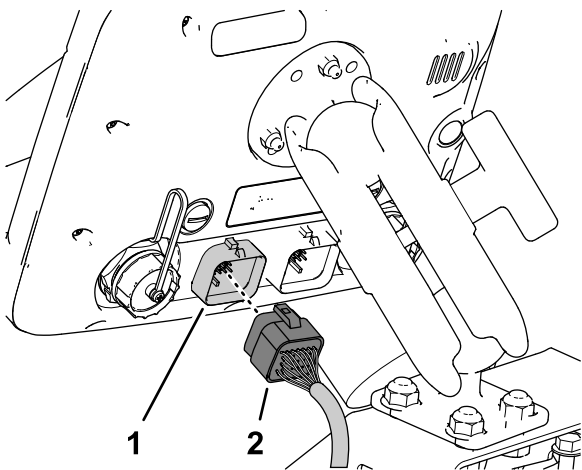

Figure 206
3. Align the 26-socket connector of the data harness with the 26-pin connector of the sprayer monitor and press the socket connector into the pin connector until the latch of the connector snaps securely (Figure 206).